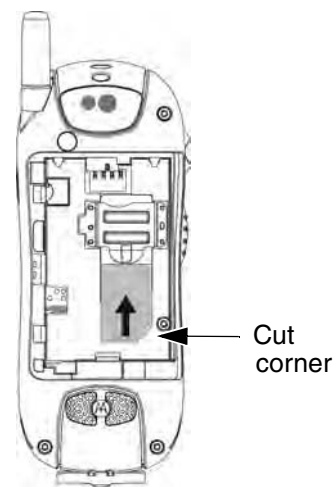

Figure 1-4. Inserting a SIM Card
1. Position the cut corner of the SIM card in the card holder as illustrated in Figure 1-4.